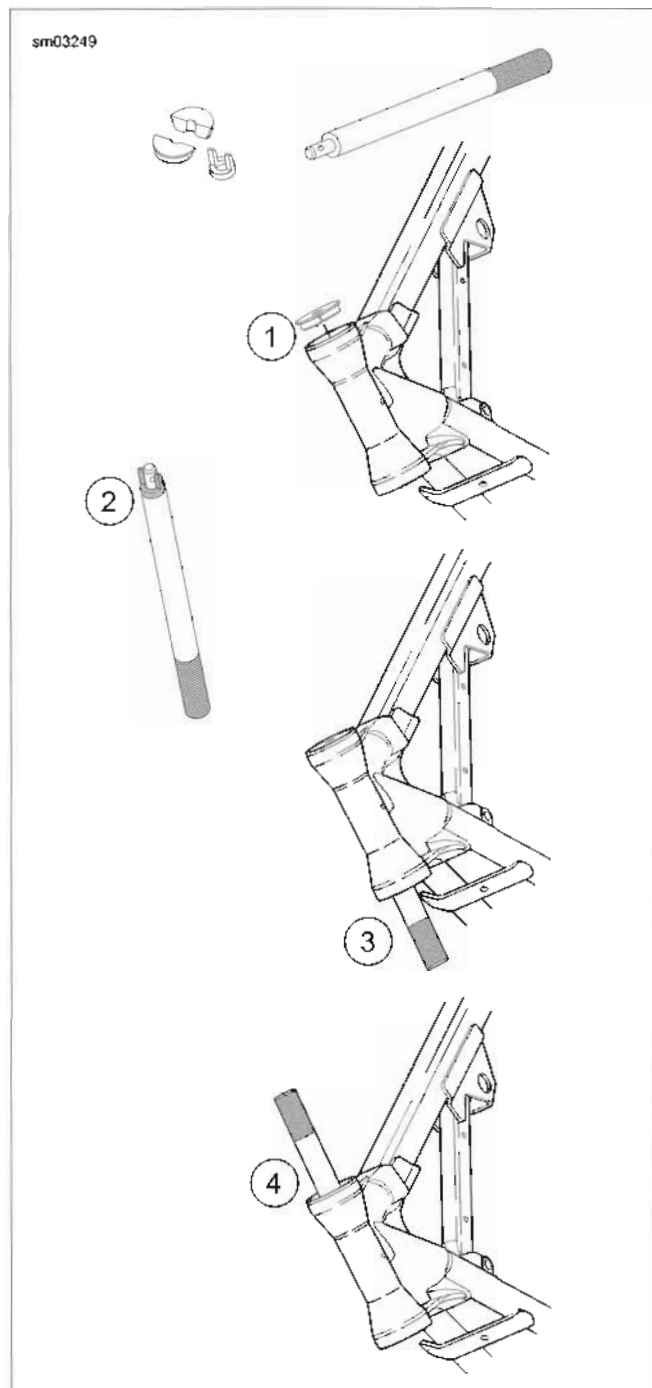

Figure 2-86. Remove Upper and Lower Steering Head Bearing Races
1. See Figure 2-86. With the tapered side down, seat the two-piece removal tool from the STEERING HEAD BEARING RACE REMOVER (Part No. HD-39301A) on the upper bearing race leaving a gap in the middle.